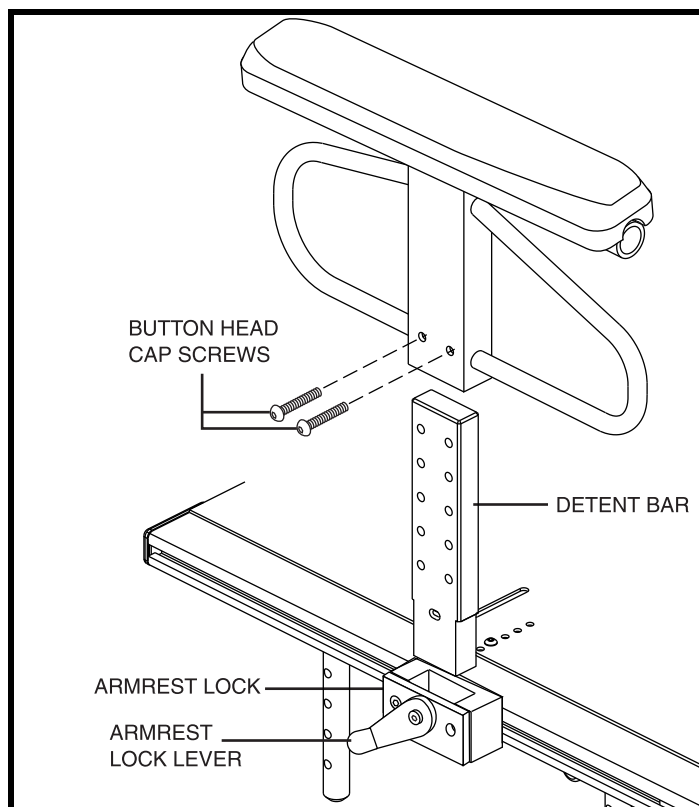

Figure 13. Armrest Height Adjustment
2. Remove the button head cap screws from the side of the armrest. See figure 13.